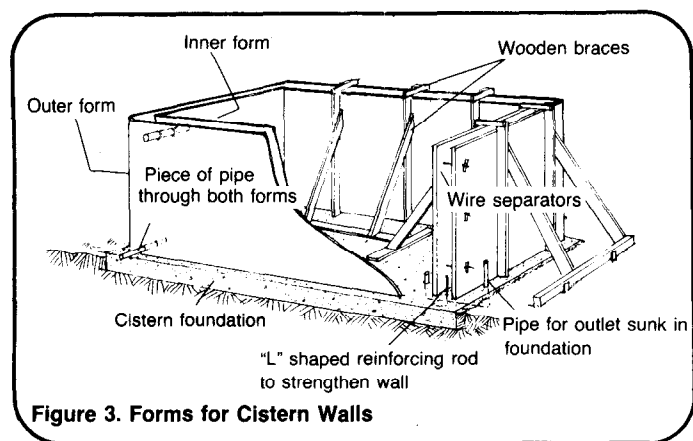

Figure 3. Forms for Cistern Walls
- Brace the forms well. Place small holes in the forms and slide wire through them. At the end of each piece of wire, attach a stick to hold the wire in place. Then tighten the wire to create enough pressure to withstand the force of the poured concrete. See Figure 3. Dirt should also be piled up against the outside of the walls to give them support against the weight of the concrete.